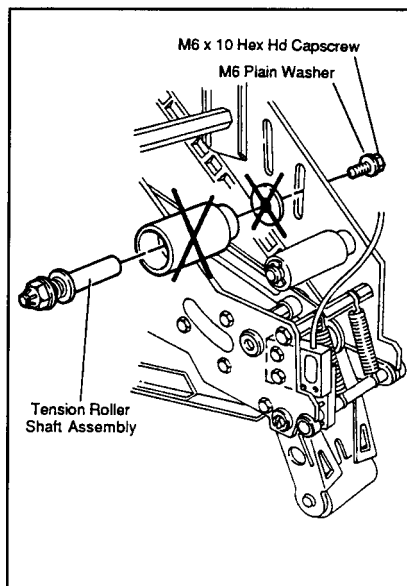

Figure 7
1. Remove the M6 x 10 mm hex head cap-screw that fastens the tension roller shaft to the taping head side plate and remove the roller/shaft assembly. See Figure 7.